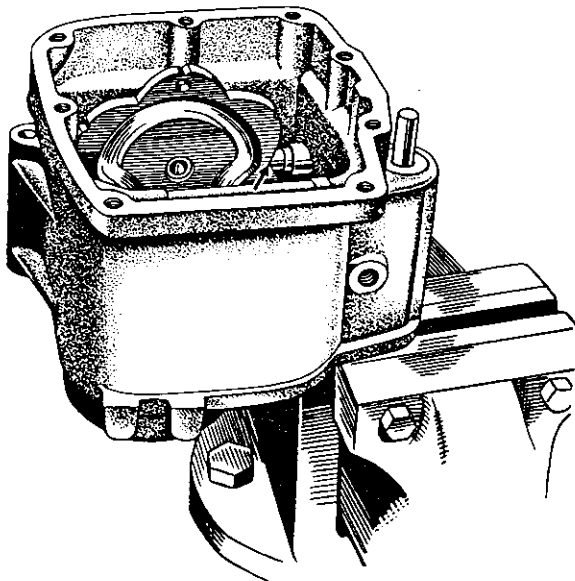

Fig. 5. Gearbox Camplate in (High) 4th gear position.
- (3) Turn the casing over and insert the high gear into the bearing and press it fully home.
- (4) Invert the casing, and, supporting the high gear from the inside, press the drive sprocket on to the high gear splines.
- (5) Secure the gearbox in the vice by clamping the pivot bolt lug between the jaws. Place a block between the sprocket teeth and vice to prevent rotation when the sprocket lock nut is tightened.
- (6) Slide the camplate spindle into the bush and then fit the camplate plunger assembly.
- (7) Fit the plunger spring inside the plunger and the plunger into the dome nut. Secure the camplate in high (4th) gear position (see Fig. 5).
- (8) Remove the gearbox casing from the vice, and with the open end facing upwards place a  $\frac{3}{8}$  in. diameter bar through the pivot bolt lug. Secure the bar vertically in the vice. Slide the mainshaft third gear over the mainshaft, followed by the mainshaft second gear, with their selector grooves towards the centre. Grease the camplate roller and place it on the peg of the smaller selector fork. Place the selector fork over the second and third gear, with the shaft of the selector fork below the mainshaft and the roller towards the clutch end of the casing. Lower the assembly into the case. With the gear cluster correctly located, press the selector fork until the camplate roller rests in the selector camplate track. Withdraw the mainshaft slowly, leaving the second and third gears and selector fork in position, to assist assembly of the layshaft gears.
- (9) Ensure that the layshaft high gear is pressed home on the layshaft. Assemble to the layshaft the second gear and third gear with the selector fork grooves facing. Fit the selector fork into the grooves, with the shaft of the selector above the layshaft and the camplate roller towards the open end of the gearbox. Apply grease to the roller and fit to the selector fork peg. Do not oil the layshaft bush, but very lightly smear the shaft with oil—if the bush is oiled an air lock is formed thus preventing correct location of the shaft. Lower the layshaft assembly into the gearbox, small gear first, until the camplate roller engages in the camplate track.
- (10) Oil the selector rod and thread it very carefully through the selector forks, shoulder end first, and engage it in the locating hole in the clutch end of the casing.
- (11) Check that the mainshaft low gear is pressed firmly home on the mainshaft. Oil the mainshaft and thread it through the mainshaft gears.
- (12) Place the layshaft low gear over the layshaft end with the internal teeth facing inwards. Place a straight edge over the gearbox end and test the clearance between the running
- (2) The clutch pressure plate must spin true. If, when the kickstarter lever is depressed, there is a tendency for the pressure plate to spin out of true, it is an indication that the clutch springs are unevenly tensioned. If the clutch does "Wobble" depress the clutch lever and revolve the pressure plate by means of the kickstart, the part of the pressure plate which touches or scrapes the outer driven (plain) plate is easily spotted if viewed from above, and can be rectified if the clutch nut diametrically opposite is screwed in. The amount to be screwed in is found by trial and error until the plate runs true. Do not attempt to unscrew a clutch nut unless a screwdriver or similar tool is used (see Fig. 5, Page 13) to prevent damage to the underside of the nut. If the adjustment is not made correctly, the clutch will not free properly, which would cause difficulty in gear changing, particularly when selecting bottom gear from neutral.
33. (1) Adjust the primary chain to allow  $\frac{1}{2}$  in. vertical play at the tightest spot as instructed in paragraph 49.